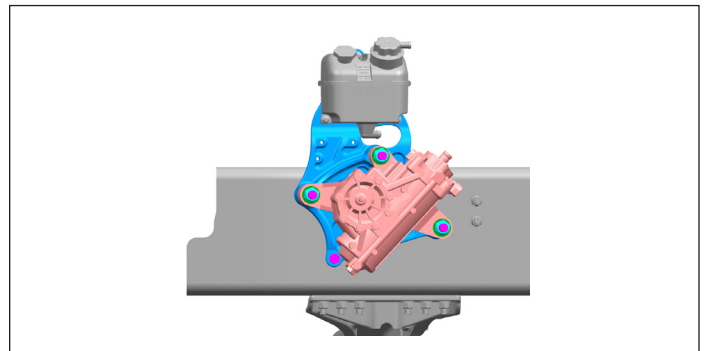

Figure 3 - Set-Back Axle Type
15. On vehicles with set-back axle types, the steering gear is assembled on the frame rail. See *Figure 3*. The steering gear should be removed with the pitman arm still attached.
2. The pitman arm on set-back axle vehicles (See Figure 3) should be assembled before installing the steering gear on the frame rail.